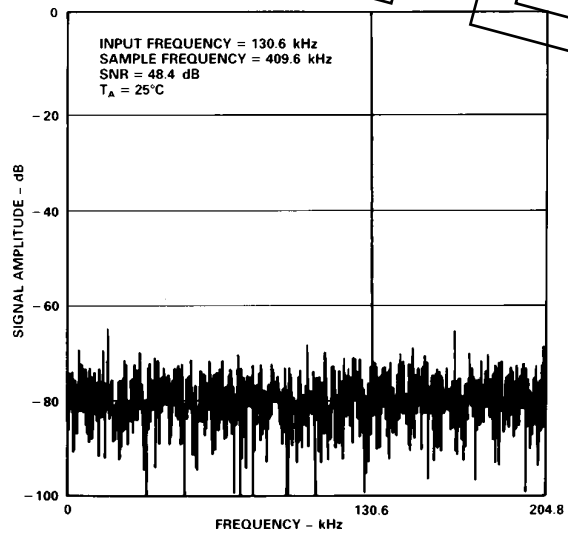

Figure 14. ADC FFT Plot
Figure 14 shows a 2048 point FFT plot of the ADC with an input signal of 130 kHz. The SNR is 48.4 dB. It can be seen that most of the harmonics are buried in the noise floor. It should be noted that the harmonics are taken into account when calculating the SNR. The relationship between SNR and resolution (N) is expressed by the following equation: